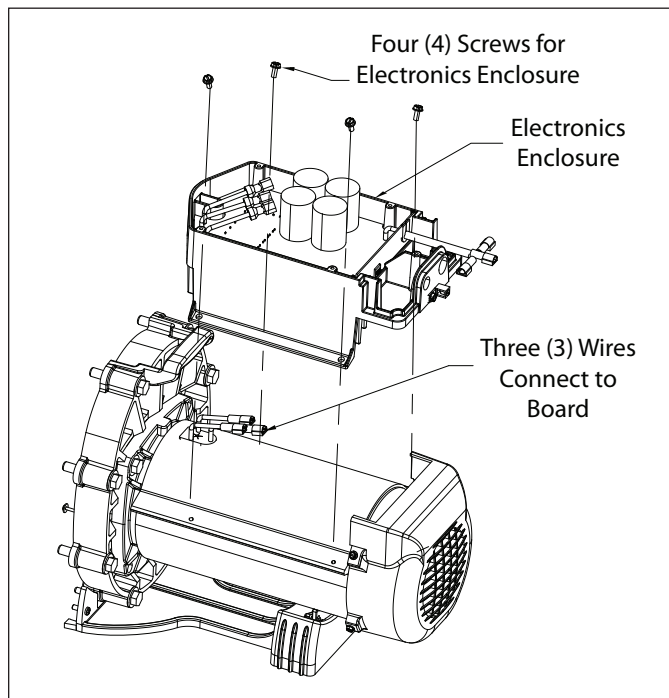

Figure 15. Remove Variable Speed Drive Electronics Enclosure
4. Unplug the three-wire harness from the board. See Figure 15.
5. Remove the four (4) screws that secure the electronics enclosure to the motor. See Figure 15.
6. Remove the electronics enclosure and mount the new electronics enclosure using the four (4) screws that secure it to the motor. See Figure 15.